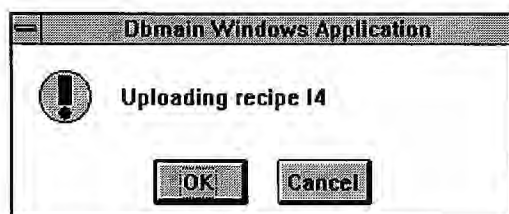

Figure 10-5 Upload Dialog Box
2. Select Upload from the PPTransfer menu. The following dialog box appears (Fig. 10-5).